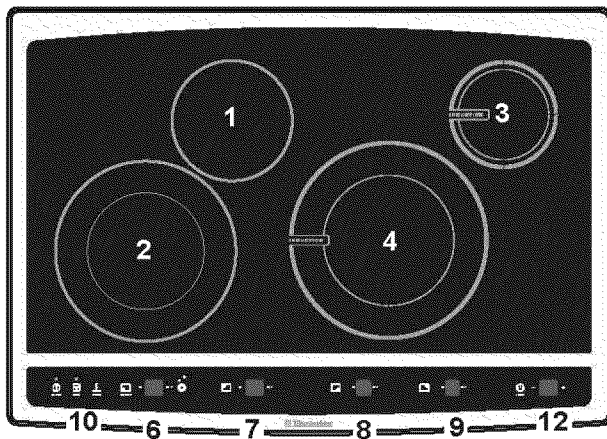

Fig. 1 - 30" model
1. Left Rear Single Radiant Element (Fig. 1)